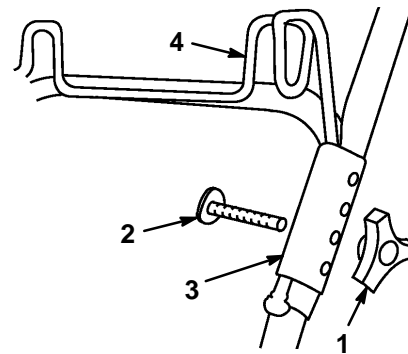

Figure 44
1. Remove bag from rear bag hanger. Remove bolt(s) and knob(s) securing hanger clamps to handle sections (Fig. 44). Hanger clamps have four adjustment holes.